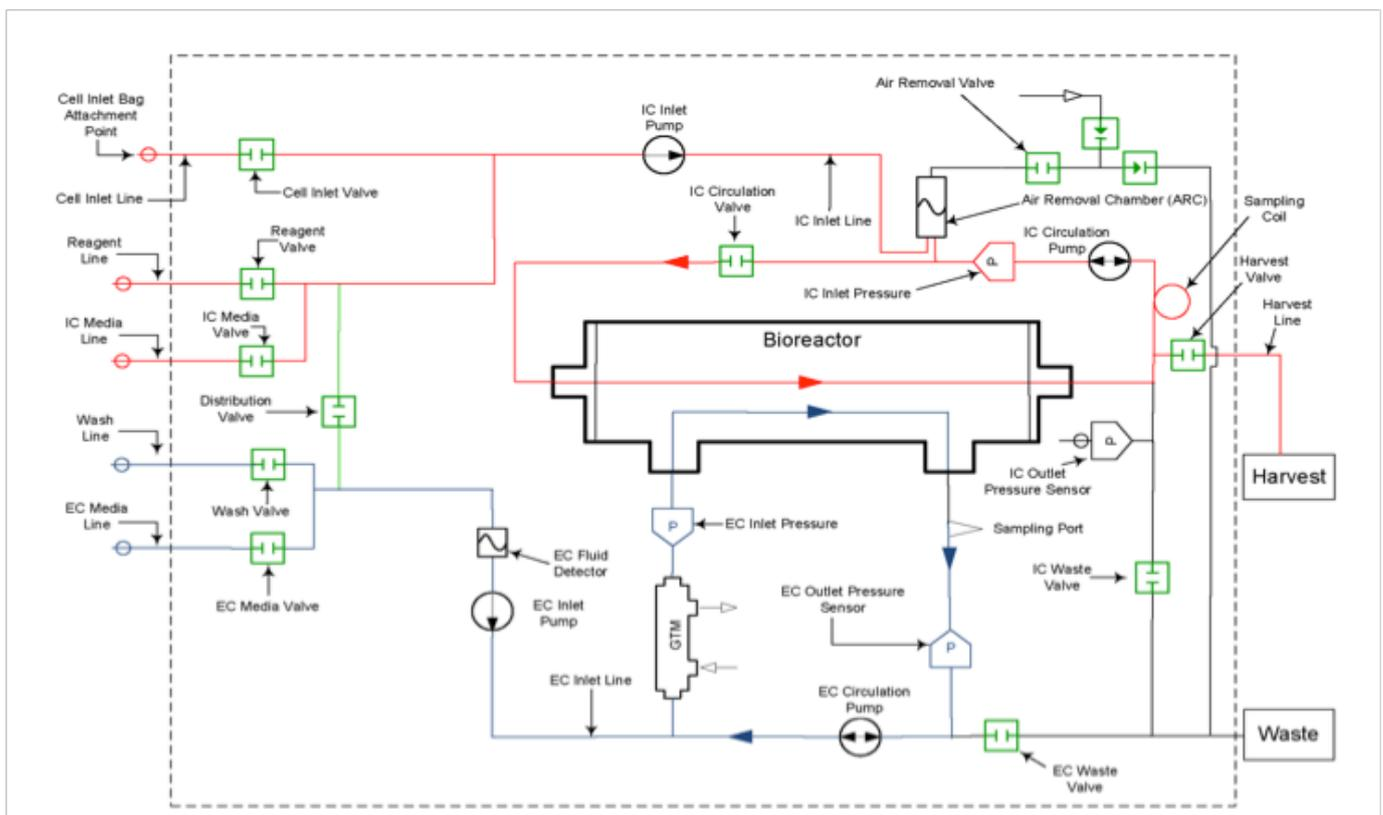

Figure 3. The Quantum system hydraulic layout with the IC loop shown in red, and the EC loop in blue.
The Quantum system fluid circuit is designed around two fluid loops: one loop for IC and one for the extracapillary (EC) side of the bioreactor (Figure 3). Five different lines allow the connection of fluid bags to the Quantum system for cell loading, cell media support and feeding, waste removal and reagent addition. These are named the Cell Inlet Line, the Reagent Line, the IC Media Line, the Wash Line and the EC Media Line. As a practical matter, the content of the five bags is completely at the discretion of the user. The user may choose to add fluid from any selected bag(s) to the system at a flow rate and volume that can be chosen by the user. The flexibility of the system allows the choice of the addition of fluid to the IC loop simultaneously with the EC loop, or independently. The bioreactor membrane between the IC and EC spaces allows free gas diffusion between the IC and EC sides of the bioreactor, as well as small molecule diffusion so that glucose and lactate freely pass from one side of the membrane to the other. Larger macromolecules are sequestered on the side of the membrane in which they are added; for this reason it is important to make sure that media with large molecules critical for cell culture (e.g., Cytokines and growth factors) are loaded on the IC side when cells are expanded on the IC side of the bioreactor. The volume of the IC fluid circuit is 189 mL, and the volume of the EC fluid circuit is 305 mL. Fluid may exit the system to either the waste bag or the harvest bag. Because the system has a constant volume, all addition of fluid will result in an equal volume of fluid leaving the system. With the exception of cell harvest, the system always operates with an open fluid path to the waste bag.